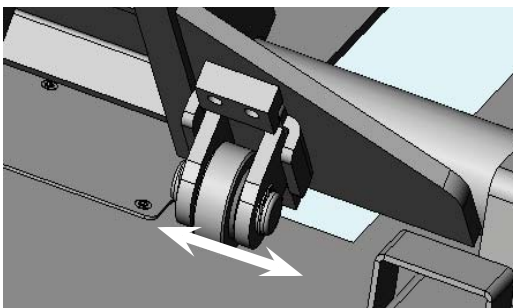

Fig. 15
- Refer to the figure 15, slide 2 kit of lift wheels onto the support;